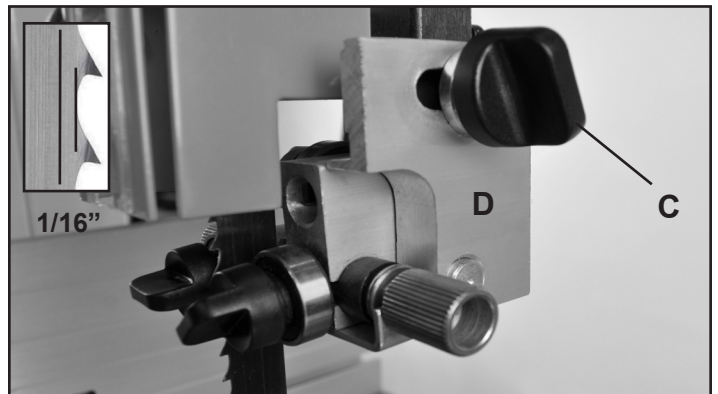
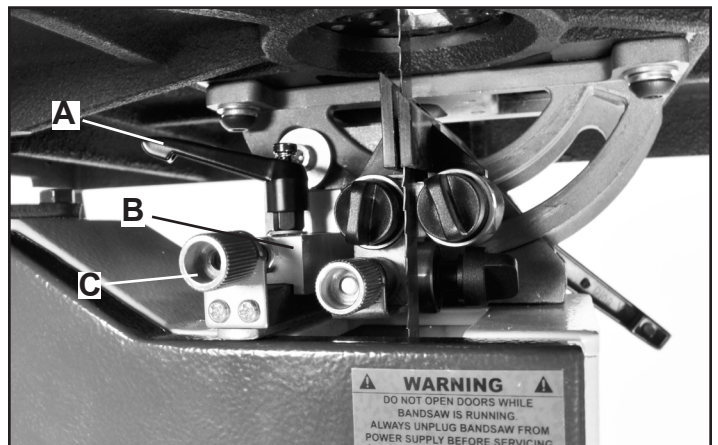

FIGURE 23
FIGURE 25
2. The front of the guides should be approximately 1/16" behind the gullets of the saw blade (Fig. 23, inset). If they need to be moved forward or backwards, loosen the Locking Knob (C, Fig. 23) and move the upper guide's Support Block (D) until the guides are properly positioned behind the blade gullets. Re-tighten the Locking Knob when done.
1. Loosen the lower support Locking Handle (A, Fig 25). Next, move the blade Guide Block (B, Fig 25) with the micro-adjusting Knob (C, Fig 25) until both side bearing guides are approximately 1/16" behind the gullets of the bandsaw blade. See Fig. 23, inset. When set, tighten the Locking Handle (A).